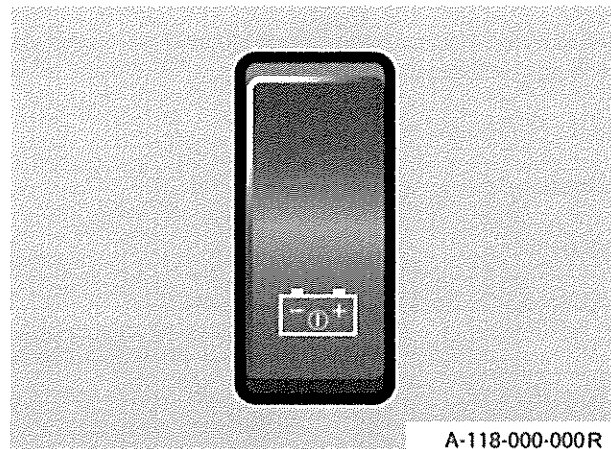

Fig 13 Electrical battery master switch
40.1 Refer to Fig 13. Press the top of the electrical battery master switch to isolate all the electrical consumers.
- 41.5 Refer to Fig 13. Press the bottom of the electrical battery master switch to restore power to all the electrical consumers.